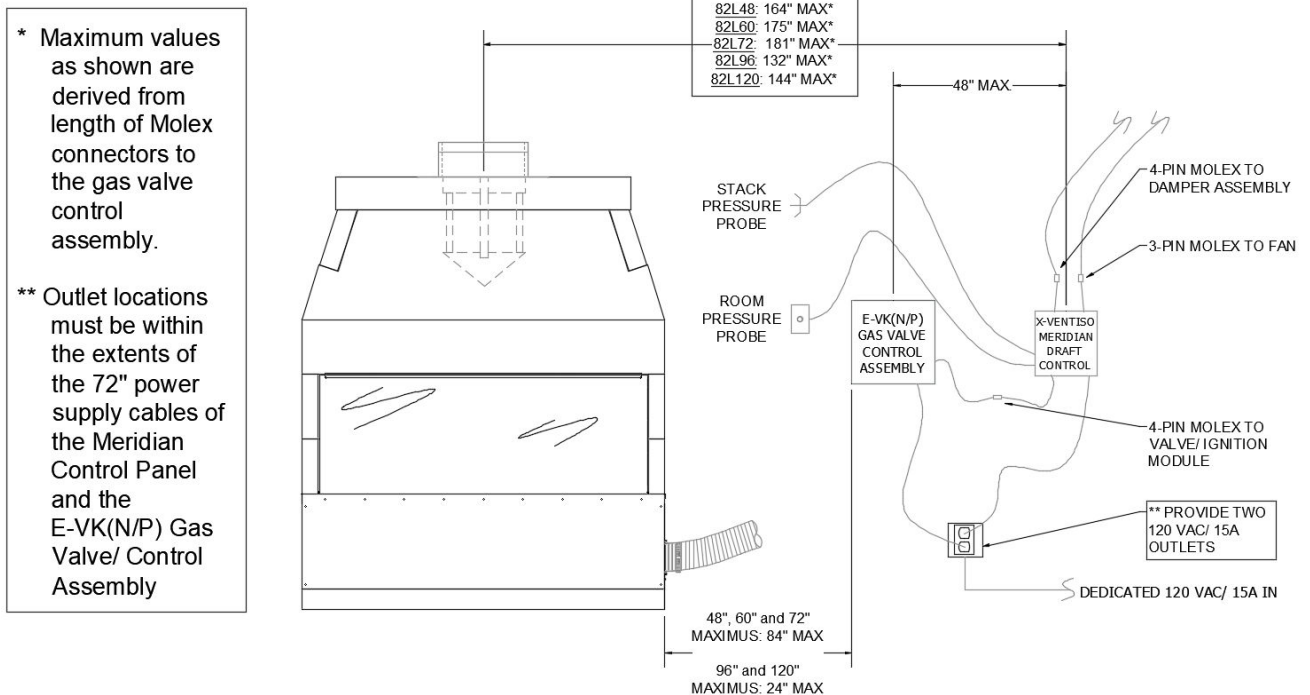

FIGURE 26
- The location of the Meridian Control Panel is dependent upon the fireplace model and must be within the values shown in **(Figure 26)**. The distances shown are as measured horizontally from the fireplace flue-outlet.
NOTE: the Isoflames Linear Burner’s gas valve control box location is also dependent upon the fireplace model/ burner size. It must be located within 84” of the sidewall of the firebox for the 48”, 60”, and 72” Maximus Linear and within 24” for the 96” and 120” Maximus Linear **(Figure 26)**.
- Two 120 VAC / 15A outlets must be provided at the chosen location on a dedicated circuit; one for the Meridian Control Panel, the other for the Gas Valve Control Box . These outlets must be within the extent of the 72” power supply cables of the Meridian Control Panel and the E-VK(N/P) Gas Valve Control assembly **(Figure 26)**.
- 3) Connect the top port of the Meridian Control Panel's pressure ports with the supplied tubing to the "Stack Pressure" vent probe (**Figure 26, 27 & 29**). This will be connected to the chimney at a location 12" above the anchor plate.
- 4) Connect the lower port of the Meridian Control Panel's pressure ports with the supplied tubing to the "Room Pressure" vent probe (**Figure 26, 28 & 29**). The other end will be connected in a suitable location in the room in which the fireplace is installed. This location must be in the same pressure zone as the fireplace opening, and within reach of the supplied tubing's connection to the Meridian Control Panel. The tubing measures 20ft.